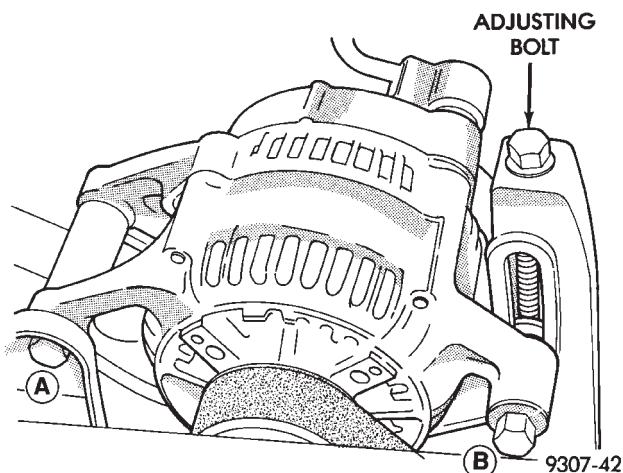
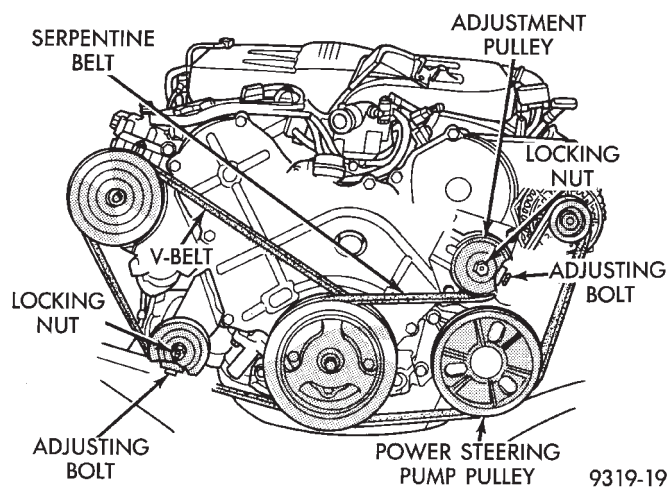

Fig. 14 Power Steering Pump Drive Belt 3.3-ltr
Fig. 15 Power Steering Pump Drive Belt 3.5-ltr
(1) Remove the battery cable from the negative post on the battery and isolate the cable.
(2) Loosen the power steering pump serpentine drive belt on 3.3-ltr engine, by loosening the alternator mounting bolt A and the adjusting bolt locknut B (Fig. 14). Then loosen adjusting bolt (Fig. 14). Loosen the power steering pump serpentine drive belt on the 3.5-ltr engine, by first loosening the adjustment pulley locking nut (Fig. 15) and then loosening the adjusting bolt (Fig. 15).